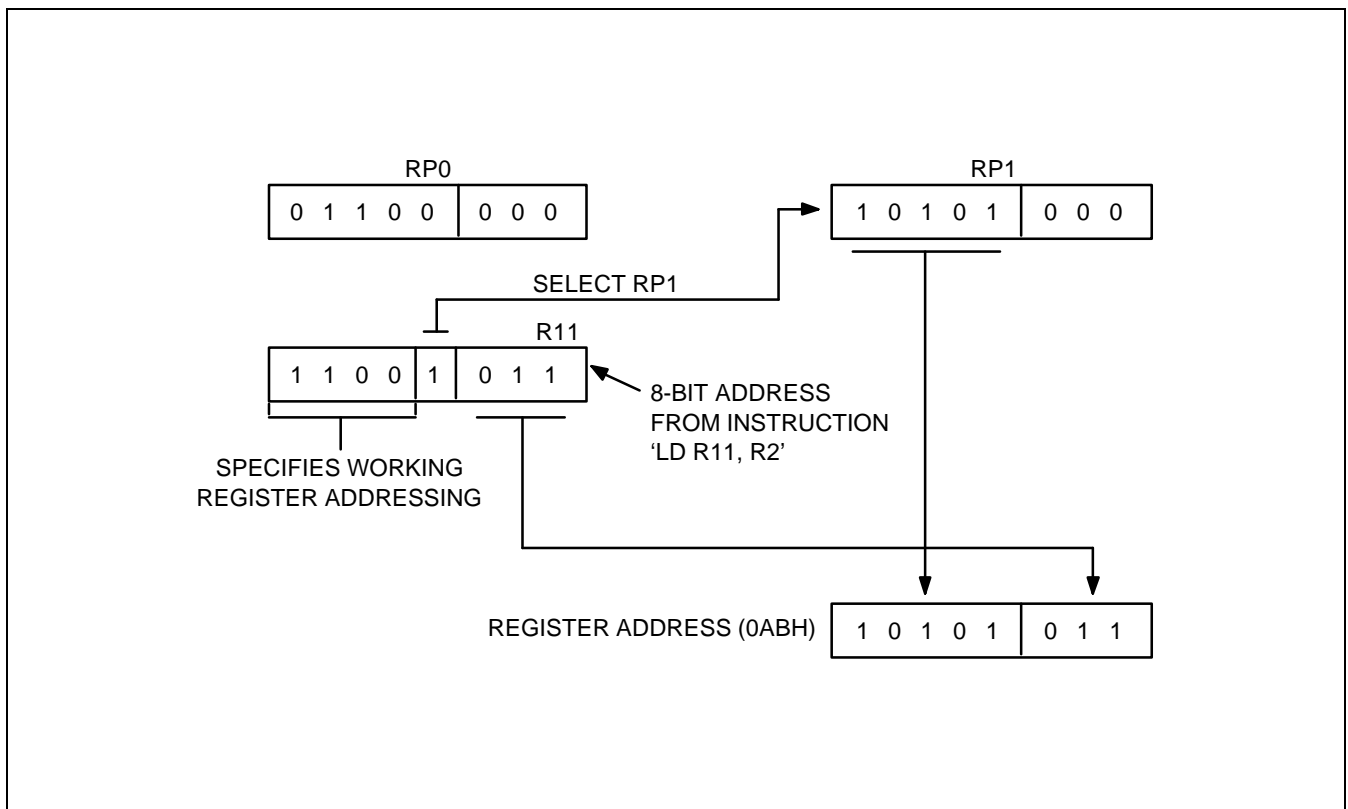

Figure 2-15. 8-Bit Working Register Addressing Example
Figure 2-15 shows an example of 8-bit working register addressing: the four high-order bits of the instruction address (1100B) specify 8-bit working register addressing. The fourth bit ("1") selects RP1 and the five high-order bits in RP1 (10100B) become the five high-order bits of the register address. The three low-order bits of the register address (011) are provided by the three low-order bits of the 8-bit instruction address. Together, the five address bits from RP1 and the three address bits from the instruction comprise the complete register address, R163 (10100011B).